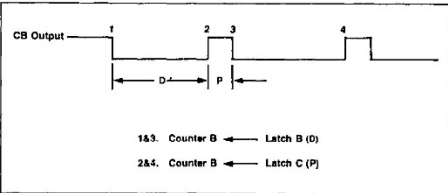

Figure 6-5. Counter B Pulse Generation
2. The lower 8 bits of D are loaded into LLB by writing to address 001C; the upper 8 bits of D are loaded into ULB by writing to address location 001E. Writing to address location 001E also causes the contents of the 16-bit Latch B to be downloaded into the Counter B and the CB output to go low as shown in Figure 6-5.